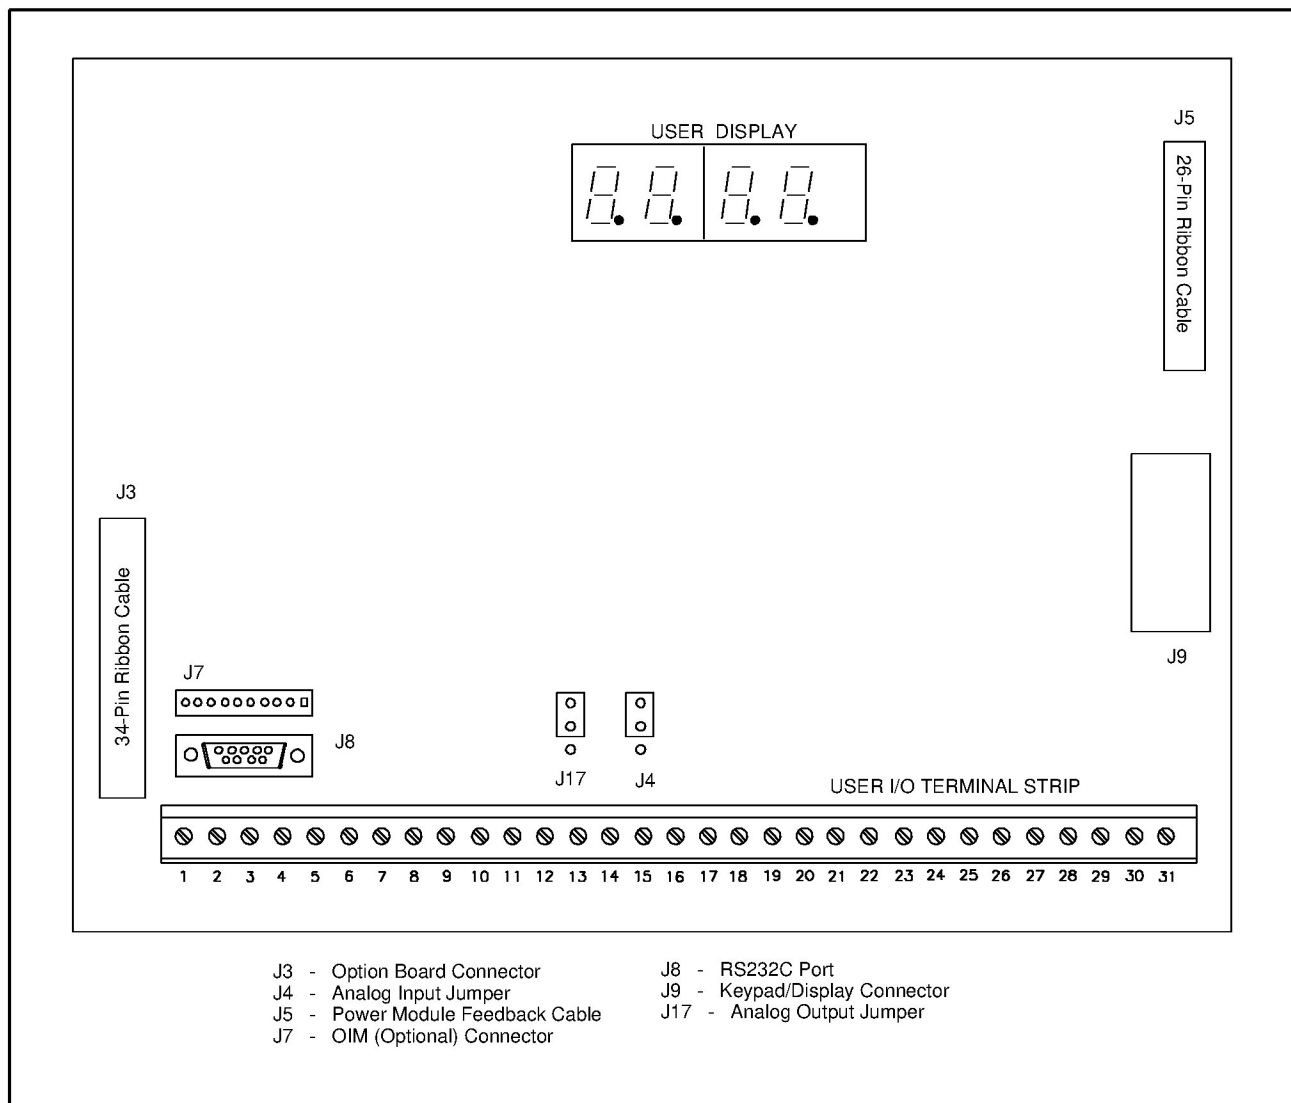

Figure 2.9 – 1-60 HP Regulator Board Component Locations
Drive regulation is performed by a microprocessor on the Regulator board. See figures 2.9, 2.10, and 2.11. Drive operation is adjusted by the parameters entered through the keypad. The Regulator board accepts power circuit feedback signals and an external speed reference signal, as well as data from an encoder that is attached to the motor when set up for FVC regulation. The Regulator board provides:
As shown in figures 2.9, 2.10, and 2.11, the Regulator boards are similar but have different Power Module interface connectors.
Jumpers J4 and J17 on the Regulator board are factory-set for voltage in and voltage out signals. Refer to figures 2.9, 2.10, and 2.11 for their locations on the Regulator boards. If you need to change the jumpers' settings, use the following procedures.
**ATTENTION:** DC bus capacitors retain hazardous voltages after input power has been disconnected. After disconnecting input power, wait five (5) minutes for the DC bus capacitors to discharge and then check the voltage with a voltmeter to ensure the DC bus capacitors are discharged before touching any internal components. Failure to observe this precaution could result in severe bodily injury or loss of life.
Step 4. Locate jumper J4 on the Regulator board. Refer to figures 2.9, 2.10, and 2.11.
- Step 4. Locate jumper J17 on the Regulator board. Refer to figures 2.9, 2.10, and 2.11.
The terminal strip on the Regulator board provides terminals for connecting customer I/O devices. See figures 2.9, 2.10, 2.11, and 2.14. The following terminals are provided:
The Regulator board contains a 9-pin D-shell RS-232 communication port (J8). This port provides RS-232 communication between the GV3000/SE drive and a personal computer running the Control and Configuration (CS3000) software. See figures 2.9, 2.10, and 2.11. Refer to instruction manual D2-3348 for more information about the CS3000 software.
The flat-ribbon cable connector (J3) on the left side of the Regulator board is a parallel bus connection port that provides a means of attaching optional boards such as the DeviceNet Option board, the RMI board, the AutoMax Network Option board, or similar boards to the GV3000/SE drive. See figures 2.9, 2.10, and 2.11. The option board is mounted below the Regulator board inside the drive. Refer to the appropriate board instruction manual for more information. Refer to section 2.9 of this manual for more information on optional drive kits.